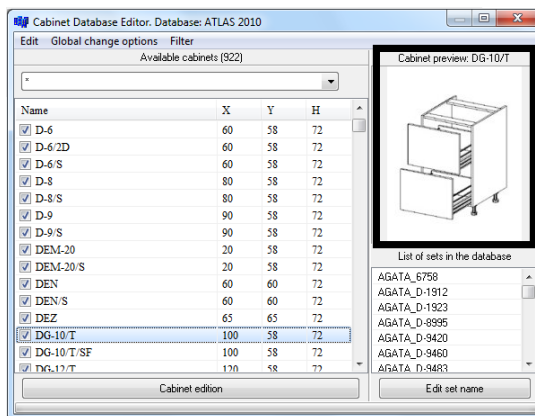

Fig. 170 – cabinet preview
- **Preview** – when you click on a position on the list of cabinets, a preview of a cabinet will be displayed in the upper right corner of the window (Fig. 170).